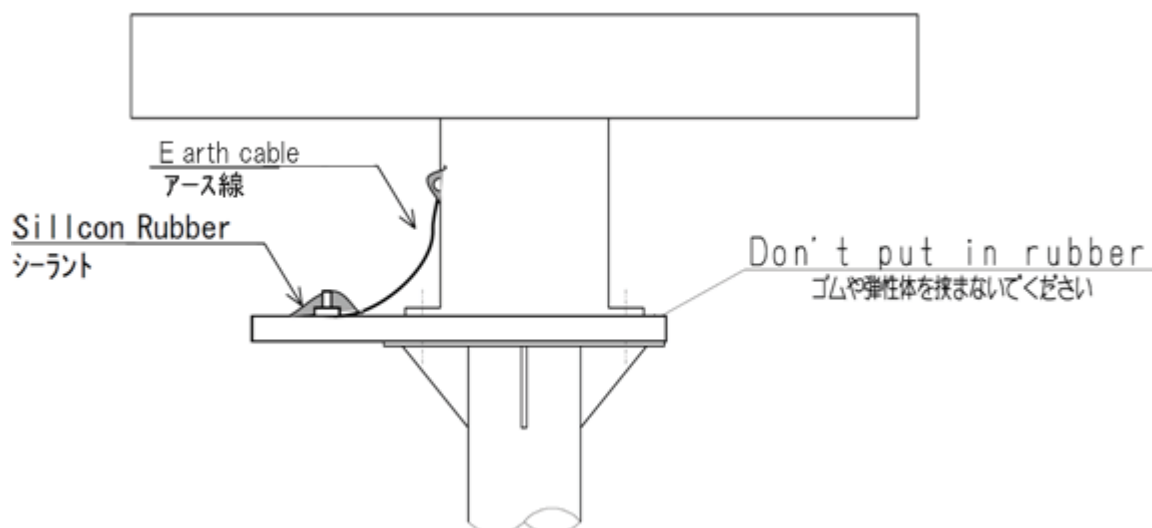

Fig.2-4 Grounding and corrosion-resistant measures
- Ground the antenna chassis and the installation surface (hull) by using an earth line. Apply sealant to the connection portion of the earth line to prevent corrosion and damage by vibration (Fig.2-4).